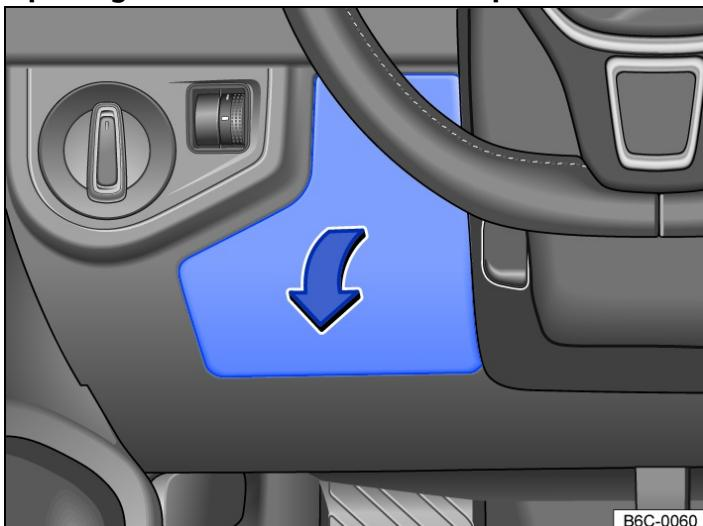

Fig. 1 In the dash panel on the driver side: fuse box cover(left-hand drive vehicle).
1. Reach behind the cover and pull off in the direction of the arrow → *Fig. 1*.